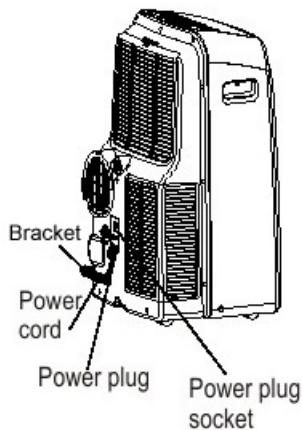

Fig.25
- Power off the unit and unplug from power source. Wrap the cord around the bracket and insert plug into the storage socket. (Fig.25)